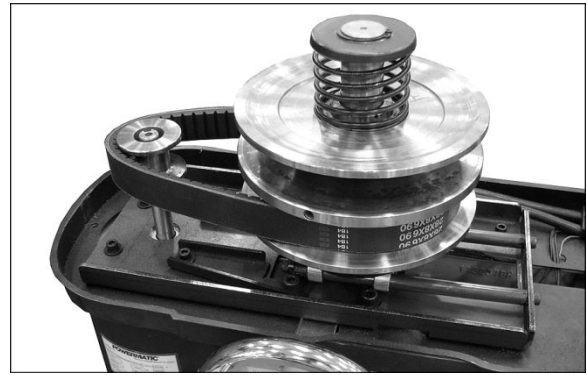

Figure 27
6. Reconnect to power, turn on drill press and rotate handwheel counterclockwise until center pulley is as close to motor pulley as possible. See Figure 27.